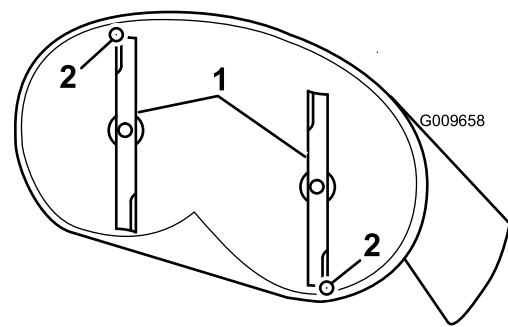
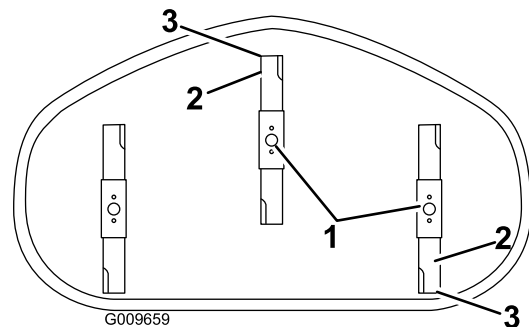

Figure 67
Figure 68
5. Measure from the tip of the front blade to the flat surface, and the tip of the rear blade to the flat surface (Figure 67 and Figure 68).
4. Carefully rotate the blades so they are facing front to rear (Figure 67 and Figure 68).
to 5/16 inch) lower than the rear blade tip (Figure 67 and Figure 68).
- A. Loosen the adjustment nut on the left adjusting rod (Figure 68).